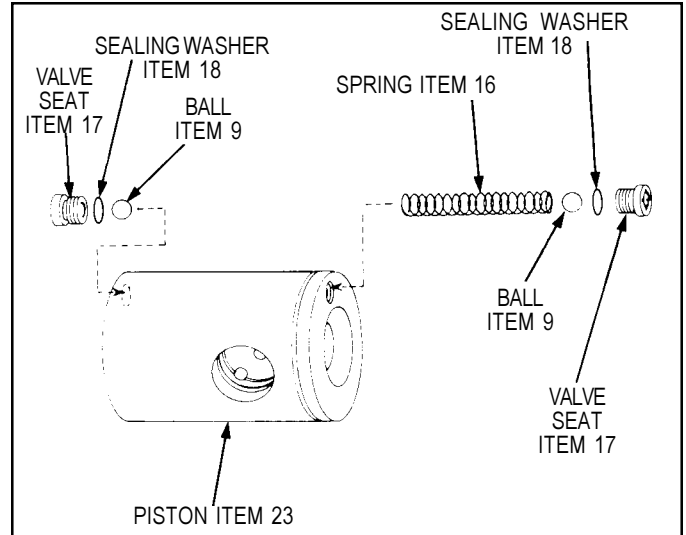

FIGURE 27 - REMOVING/INSTALLING STEERING LIMITING COMPONENTS
13. If the steering gear is not equipped with a steering limiting valve feature, disregard steps 13-15. Remove either of the steering limiting valve seats (17) and sealing washer (18) from the piston. Either a Phillips or straight blade screwdriver will be required, depending upon which of the two styles of body is in use. *Figure 27*
14. Remove one of the two balls (9), the spring (16), then the remaining ball (9). Referring to the previous step, remove the remaining steering limiting valve seat (17) and its sealing washer (18) from the other end of the piston. *Figure 27*